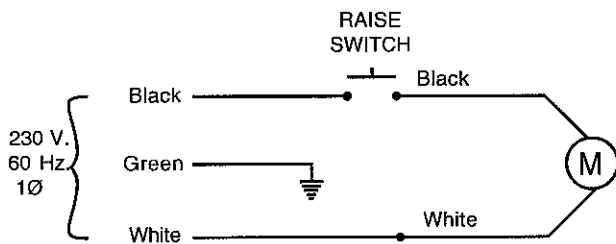

Fig. 18
10. Electrical: Have a certified electrician run 230 volt single phase 60 Hz. power supply to motor, Fig.18 and 19. Size wire for 20 amp. circuit. See Motor Operating Data table.